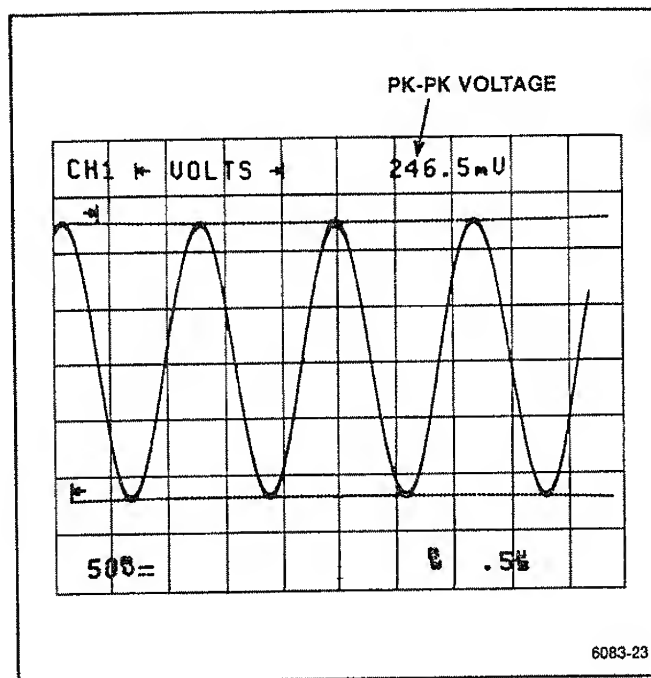

Figure 6-9. Voltage difference measurement using cursors.
2. Press the CURSORS button to display the measurement selection menu and select the \leftarrow VOLTS \rightarrow cursors. The Voltage cursors are initialized to the peak-to-peak levels of the lowest numbered displayed channel of either CH 1 or CH 2 (see Figure 6-9).